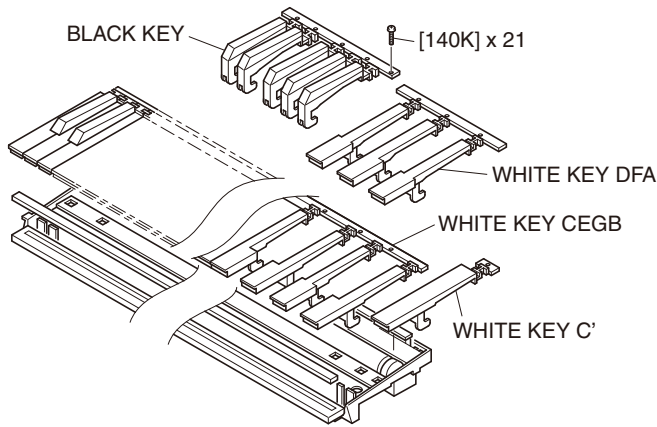

Fig. 13
- 20-8. Remove the twenty-one (21) screws marked [140K], then remove the black keys from the lower notes. (Fig. 13)
- 20-8-1. Remove the white keys DFA and C'. (Fig. 13)
- 20-8-2. Remove the white keys CEGB from the higher notes. (Fig. 13)
- 21-1. Install the white keys CEGB from the lower notes. (Fig. 13)
- 21-2. Install the white keys DFA and C'. (Fig. 13)
- 21-3. Install the black keys from the higher notes, and tighten the twenty-one (21) screws marked [140K]. (Fig. 13)